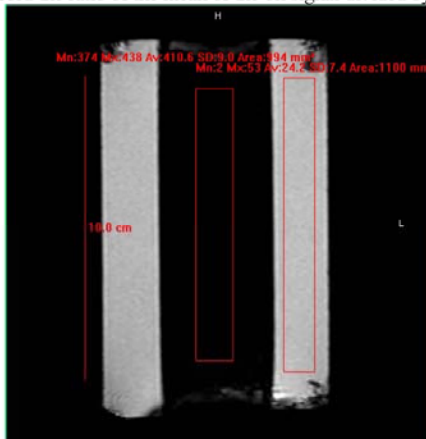

Figure 3: Example of ROIs for the 3-point Dixon sequence test
6. In slice number 11, draw a 10cm long ROI using the ROI tool in the water part of the phantom (refer to Figure 3).
9. Draw an ROI using the ROI tool in the oil part of the phantom (refer to Figure 3).